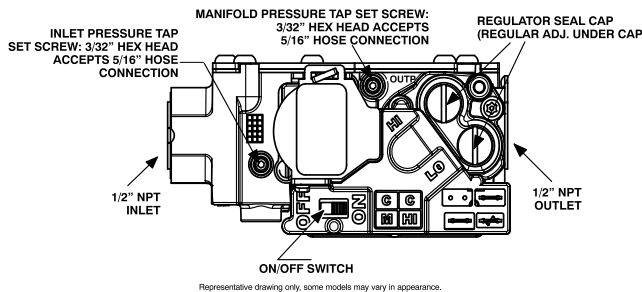

Fig. 63 – Gas Valve with Tower Pressure Ports
- Adjust manifold pressure to obtain low fire input rate. See Fig. 63.
- Remove regulator adjustment cap from low heat gas valve pressure regulator and turn low-heat adjusting screw (3/16 or smaller flat-tipped screwdriver) counterclockwise (out) to decrease input rate or clockwise (in) to increase input rate. See Fig. 63.
- Adjust manifold pressure to obtain high fire input rate. See Fig. 63.
- Remove regulator adjustment cap from high-heat gas valve pressure regulator and turn high heat adjusting screw (3/16-in. or smaller flat-tipped screwdriver) counterclockwise (out) to decrease input rate or clockwise (in) to increase input rate. See Fig. 63.